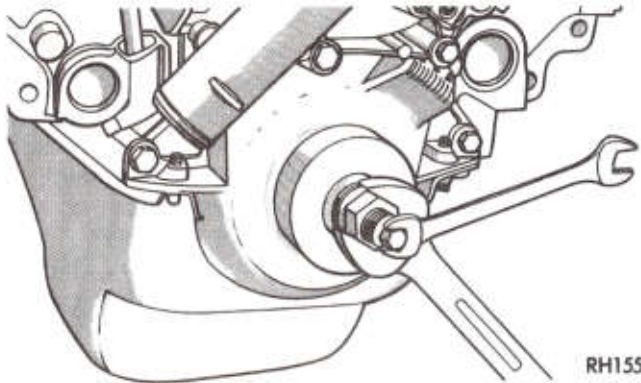

Fig. 27—Installing Oil Seal
(1) Install new seal by installing the threaded shaft part of tool (C-4251) into the threads of the crankshaft.
(2) Place seal into opening with seal spring towards the inside of the engine.
(3) Place the installing adapter C-4251-3 with the thrust bearing and nut on the shaft. Tighten nut until tool is flush with the timing chain cover. (Fig. 27).